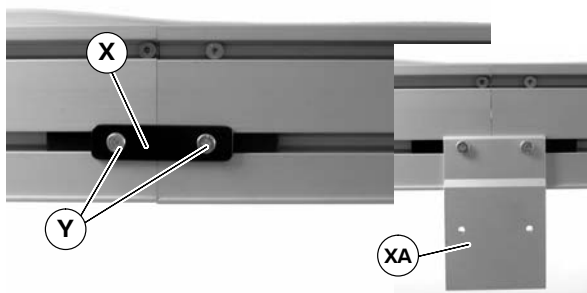

Figure 8
4. Join additional conveyor sections if necessary and install connector brackets (X of Figure 8) or connector/mount brackets (XA) and screws (Y) on both sides as indicated. Tighten screws to 60 in-lb (7 Nm).